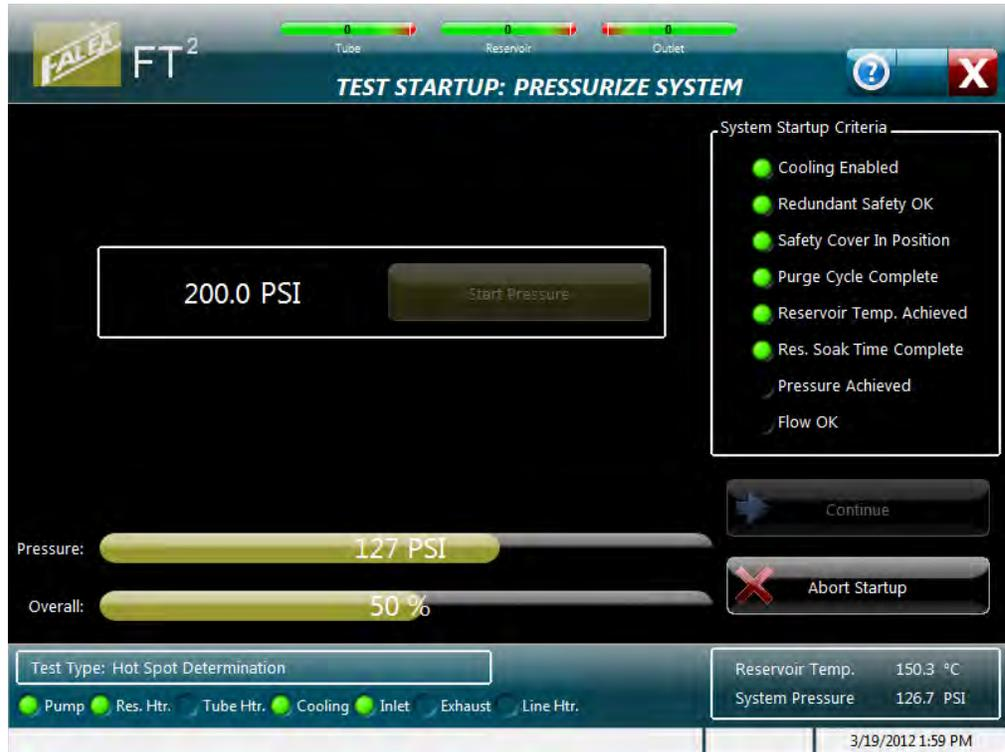

Figure 4-58 – Pressurize System display
One of the first three (3) displays in the startup process (depending on configuration) is the Pressurize System display (figure 4-58). The purpose of this process is to slowly pressurize the system with a compressed gas (dry grade oxygen/nitrogen mixture or nitrogen) to the desired pressure. System pressure will reduce the ability of the fluid to vaporize. Once pressurized, check for leaks (carefully tighten connection if a leak is found).